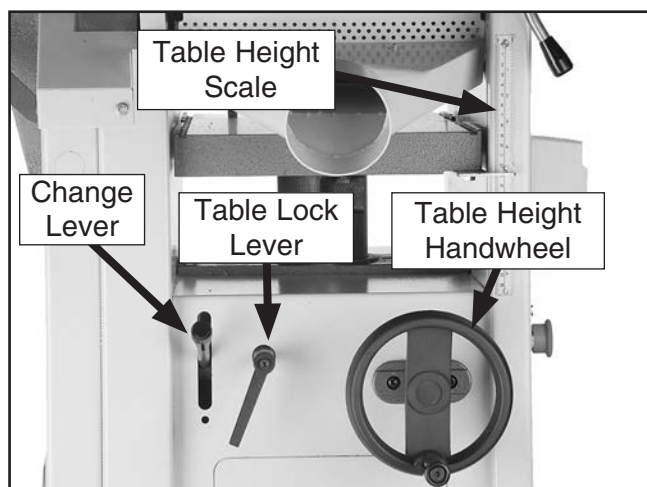

Figure 22. Planer table control locations.
Table Height Handwheel: To move the planer table, rotate the table height handwheel (**Figure 22**).
9. Flip the change lever (**Figure 22**) up.